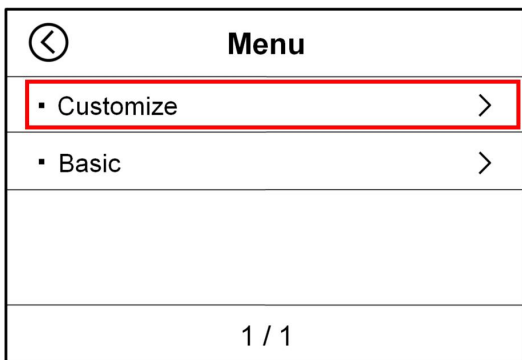
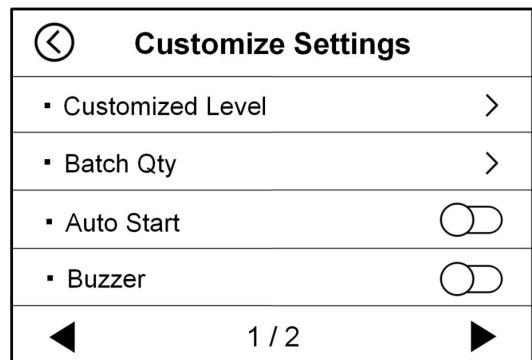
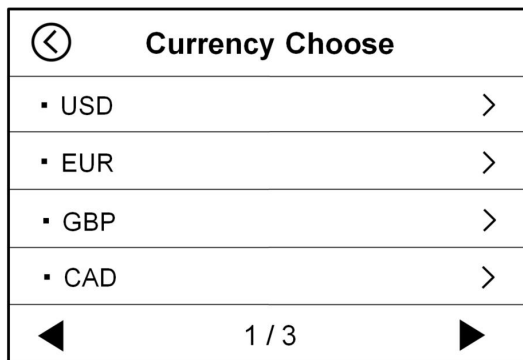

Figure 39
Figure 40
Figure 53
- 1) Press the “” key to enter the main interface of **MENU**, as shown in Figure 39 below, Press “**Customize**” to enter into Customize Settings, as Figure 40.
- 2) Touch Click “**Customized Level**” under Figure 40 to enter into counterfeit detection level setting interface, as Figure 53 shows: